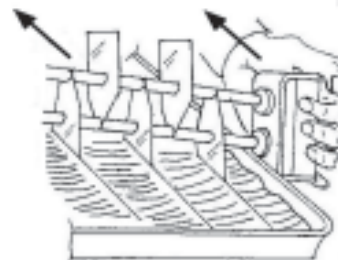

Figure 2
- 3) Pull the cutter through the product toward your body, tilting the cutter and blades as shown in Figures 2 and 3. Always pull the cutter through the product toward your body.